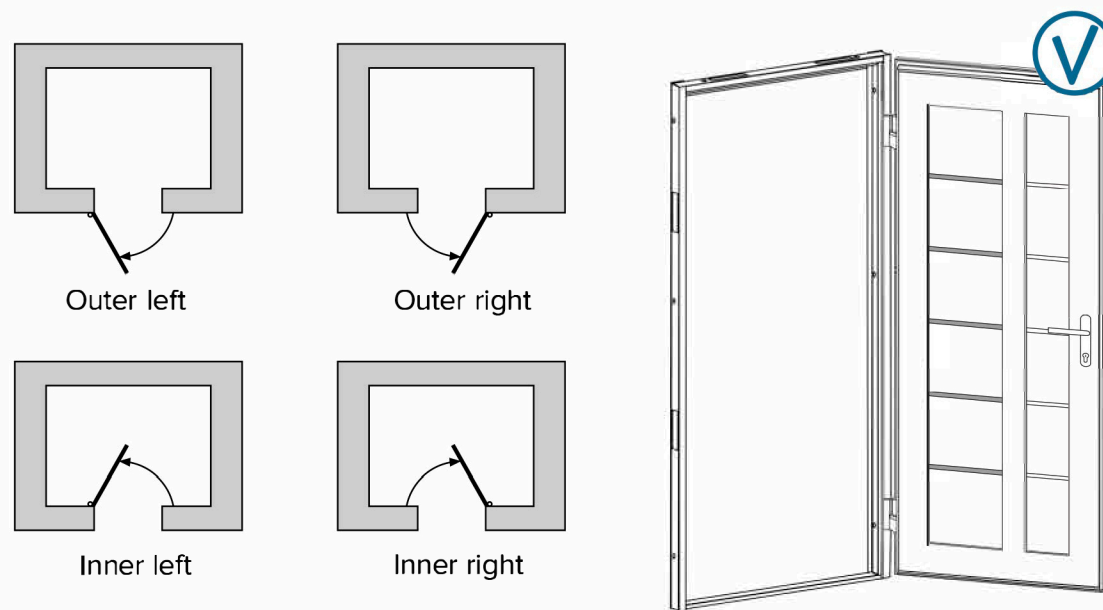

Figure 2 – the scheme of checking the direction and the side of the opening
2.1. Before installing the door block, it is necessary to make sure that the size, side and direction of opening of the new door correspond to the opening (figure 2).